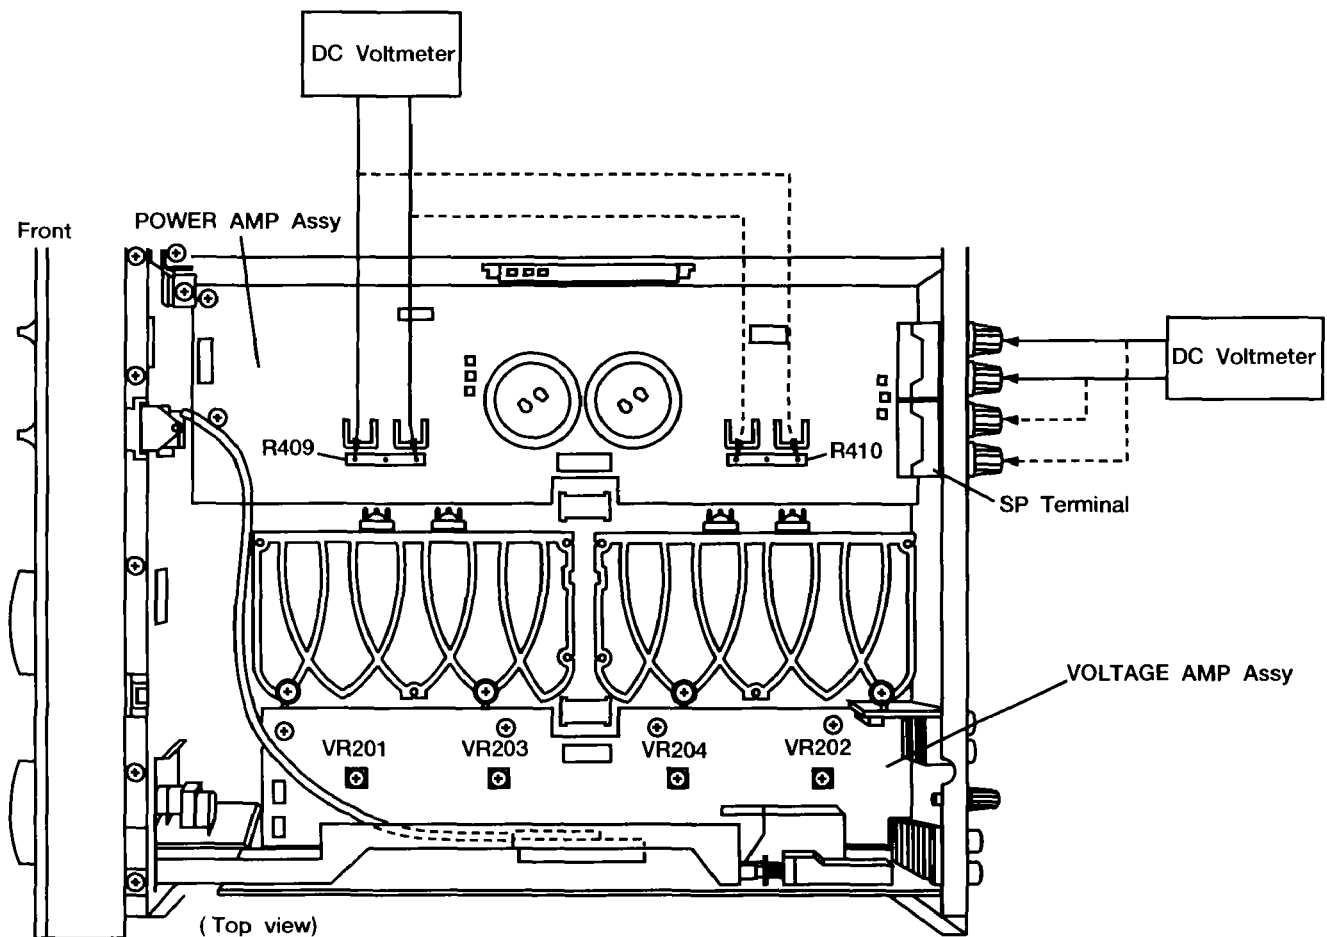

Fig. 4-1 Adjustment Method
1. Connect the measuring instrument as Fig. 4-1. (R409 or 410)
1. Connect the measuring instrument as Fig. 4-1. (SP terminal)